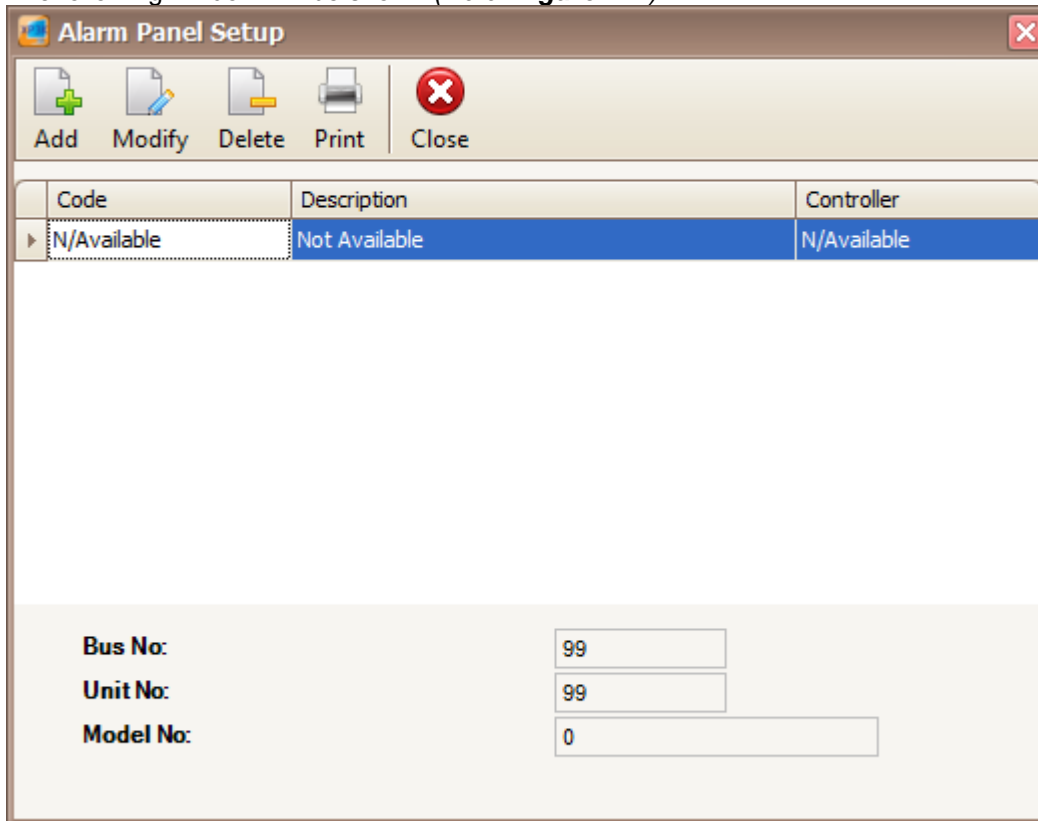

Figure 122 - Alarm Panel Setup
2. The following window will be shown (Refer **Figure 122**).